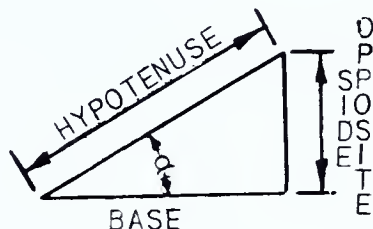

FIG. 244 — *Functions of a Triangle*
FUNCTIONS OF A TRIANGLE — Fig. 244. The ratios or related values commonly considered when solving right-angled triangles. The “side opposite” is always opposite the angle under consideration.
**RIGHT-ANGLED TRIANGLE** — Fig. 244. A triangle having one right angle.